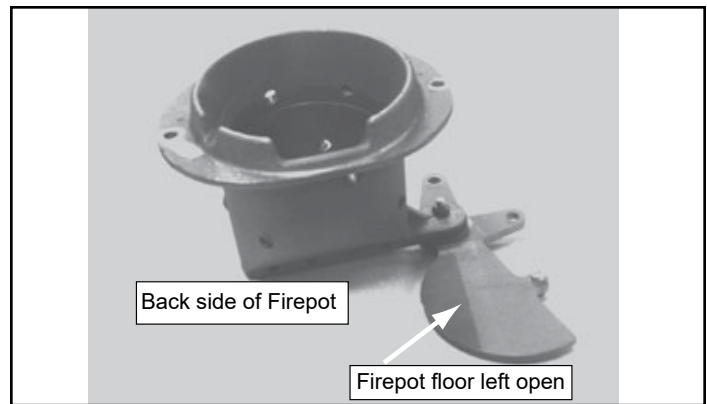

Figure 19.2
- d. The fire pot floor plate must be fully closed when finished (**Figure 19.2**).